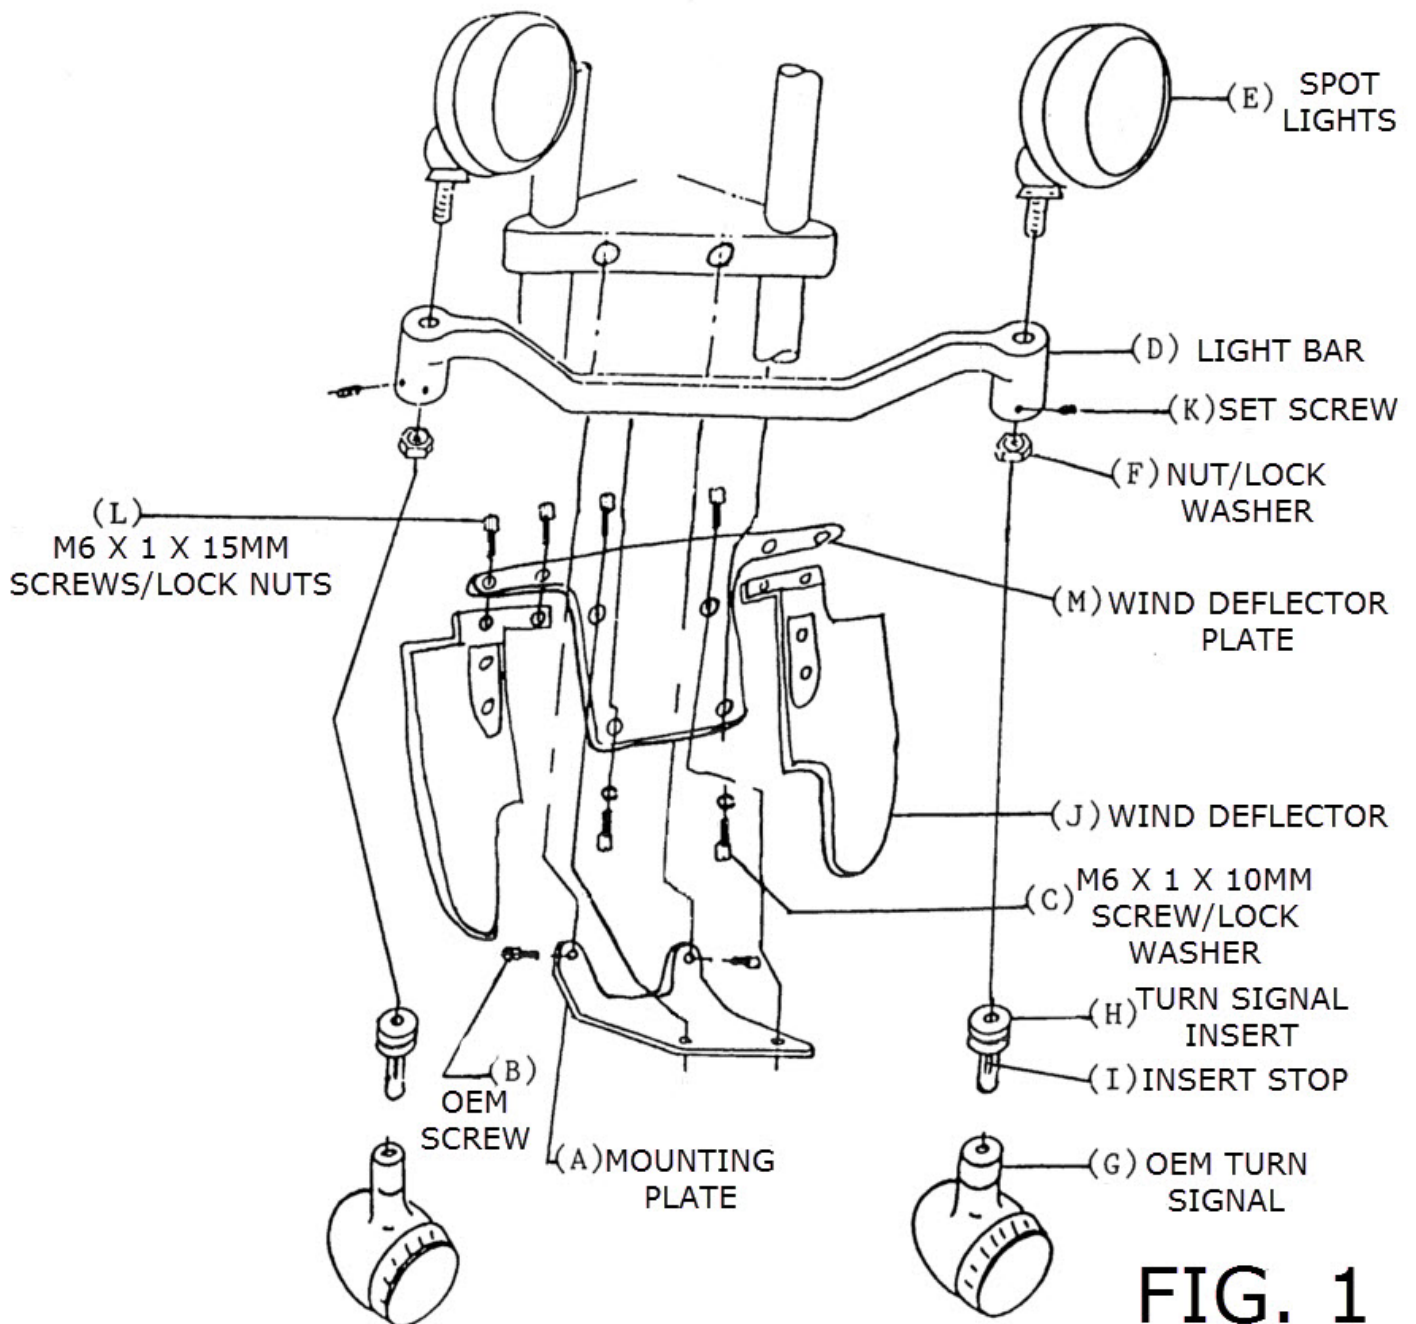
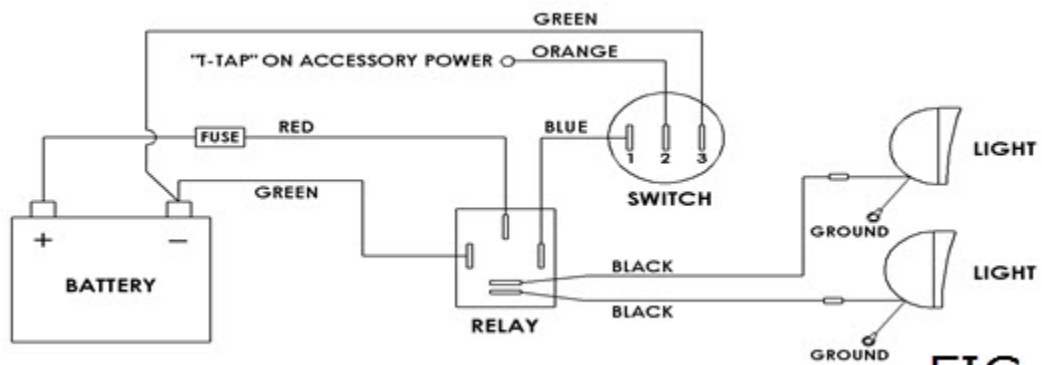

FIG. 1
FIG. 2
7. ON EACH OEM TURN SIGNAL (G) FOLLOW THE WIRES INTO THE HEADLIGHT HOUSING & DISCONNECT THEM (UNPLUG THE BULLET CONNECTORS).
8. USING 6MM ALLEN WRENCH REMOVE THE TWO SOCKET HEAD CAP SCREWS (B) HOLDING THE TURN SIGNAL OEM LIGHT BAR TO FORKS (KEEP SCREWS). SEE FIG. 1.
9. USING 4MM ALLEN WRENCH REMOVE THE WIND DEFLECTORS (J) FROM OEM LIGHT BAR (WILL NOT REUSE THESE SCREWS).
10. USING 8MM WRENCH REMOVE THE TURN SIGNALS (G) FROM THE OEM LIGHT BAR (KEEP SCREWS AND RUBBER).
11. INSTALL THE MOUNTING PLATE (A) TO THE FORKS USING SCREWS THAT WERE REMOVED. SEE FIG. 1.
12. INSTALL OEM WIND DEFLECTORS (J) TO WIND DEFLECTOR PLATE (M) (WITH BEND UP) USING (4) M6 X 1.00 X 15MM SCREWS (L) AND LOCK NUTS WITH LOCK NUTS POINTING DOWN.
13. INSTALL WIND DEFLECTOR PLATE (M) TO MOUNTING PLATE (A) USING (2) 6MM X 1.00 X 15MM SCREWS (L) AND LOCK NUTS WITH LOCK NUTS POINTING DOWN.
14. INSTALL THE SPOT LIGHTS (E) ONTO THE NEW LIGHT BAR (D) USING THE NUTS & LOCK WASHERS (F) PROVIDED WITH THE LIGHTS. POSITION THE LIGHTS TIGHTEN WITH 14MM SOCKET & WRENCH. **NOTE: DO NOT OVER-TIGHTEN**
16. ROUTE THE OEM TURN SIGNAL (G) WIRES & THE SPOT LIGHT (E) WIRE INTO THE LIGHT BAR. YOU MAY HAVE TO CUT OFF OEM BULLET CONNECTORS AND ADD NEW ONES AFTER THEY ARE ROUTED. SEE FIG. 2
17. THE TURN SIGNAL INSERTS (H) WITH OEM TURN SIGNAL (G) NEED TO BE POSITIONED INTO LOWER ENDS OF THE LIGHT BAR (D) & SECURED THEM WITH SET SCREWS.(K) 3 ON EACH SIDE USING A 2MM ALLEN WRENCH.
19. USING THE TWO M6 X 1.00 X 10MM (C) SOCKET HEAD CAP SCREWS & LOCK WASHERS ATTACH LIGHT BAR (D) ONTO THE WIND DEFLECTOR PLATE (M) AND TIGHTEN USING A 5MM ALLEN WRENCH.
20. LOCATE YOUR BIKES BATTERY, FUSE BLOCK AND / OR ACCESSORY TERMINALS AND WIRE ACCORDING TO THE SCHEMATIC FIG 2.